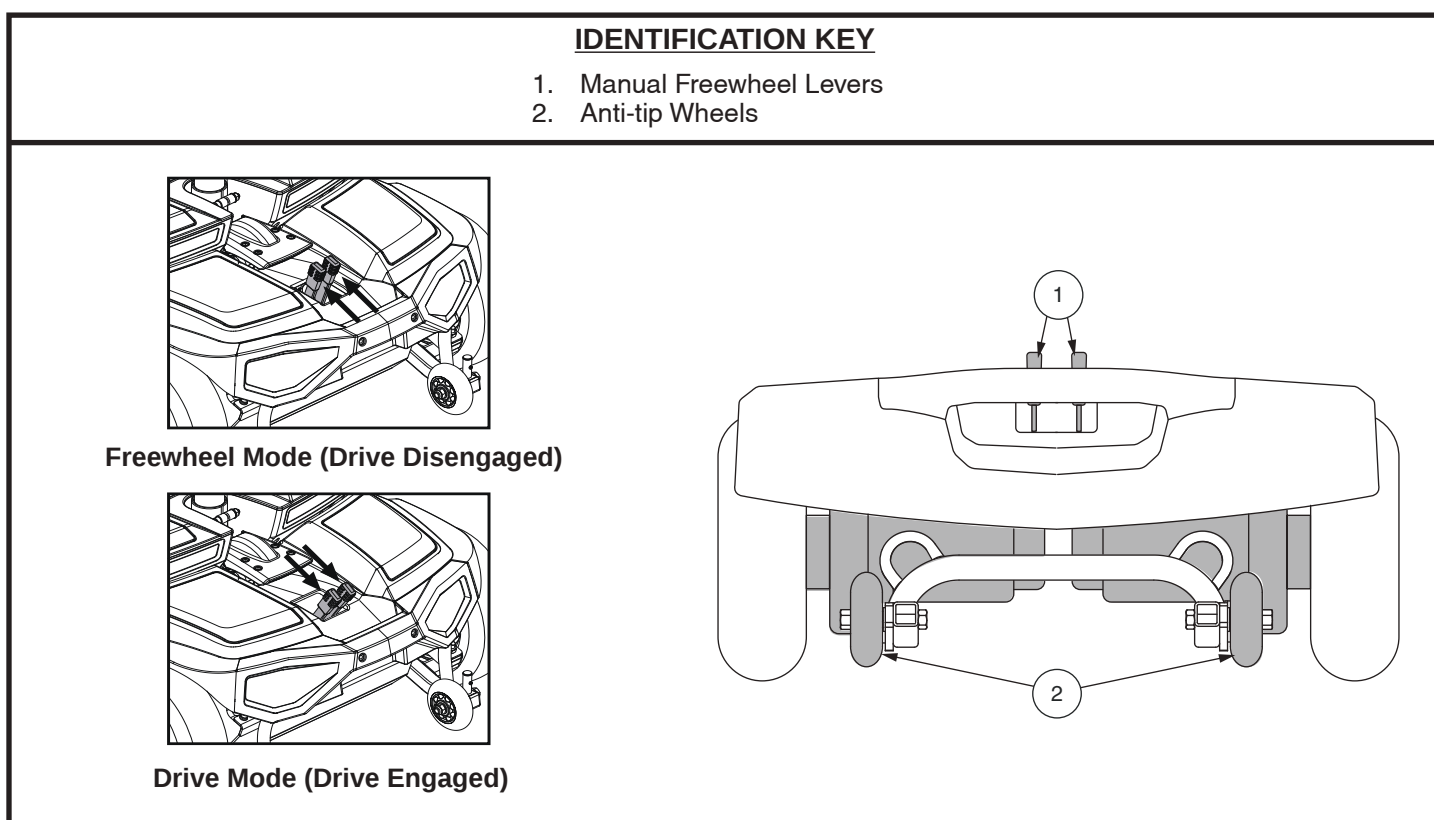

Figure 10. Rear Components - Jazzy ZTS
For your convenience, your travel scooter has a manual freewheel lever on each motor. Manual freewheel levers enable you to disable the drive system in order to maneuver the Travel Scooter manually. See figure 10.
1. Locate the levers on the rear section of the scooter. See figure 10.